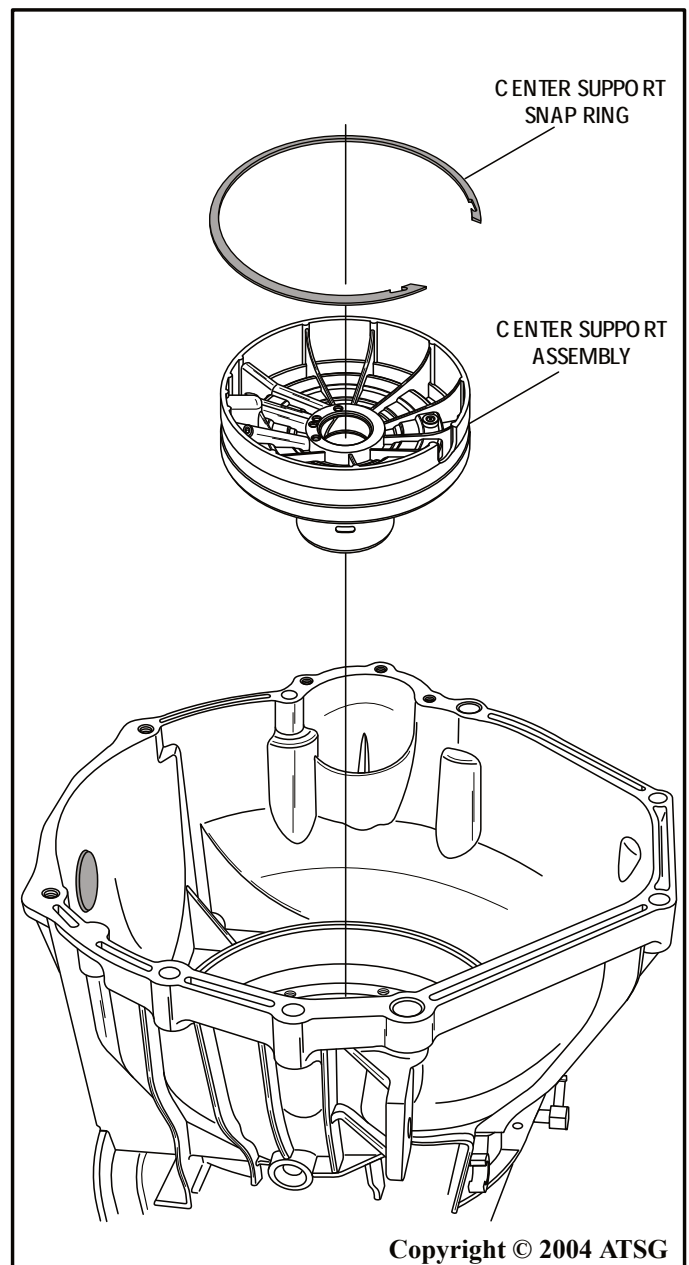

Figure 171
16. Install the pre-assembled center support into case, as shown in Figure 171.
18. Install the center support snap ring, as shown in Figure 171, with the opening facing the six o'clock position in the case..